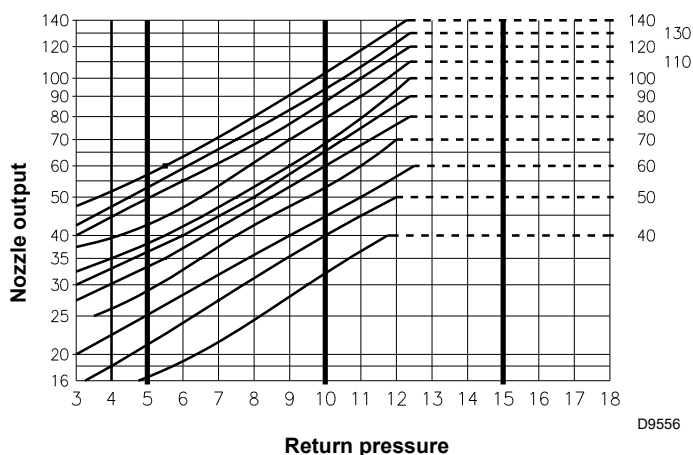
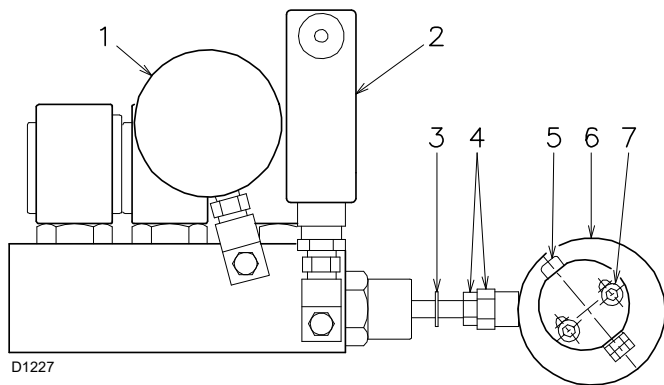

Fig. 26
Fig. 27
The diagram (Fig. 26) indicates this relation for Bergonzo type A2 nozzles with a 20 bar pump delivery pressure.
The value of the pressure on the return line of the nozzle is shown on the pressure gauge 1)(Fig. 27).
The return line pressure corrections are possible by changing the eccentric 6)(Fig. 27) and the nut with the lock nut 4)(Fig. 27).
- **Never drive the variator piston fully home: the stop ring 3)(Fig. 27) determines the maximum stroke.**
- **At the end of the adjustment, manually check, after unlocking the servomotor (refer to page 27), that between 0° and 130° there is no sticking and that the maximum and minimum pressures correspond to the one selected according the diagram (Fig. 26 page 25).**
The nozzle flow output is given in the diagram (Fig. 26 on page 25) in correspondence with the nozzle return line pressure, measured with the pressure gauge 1)(Fig. 27).